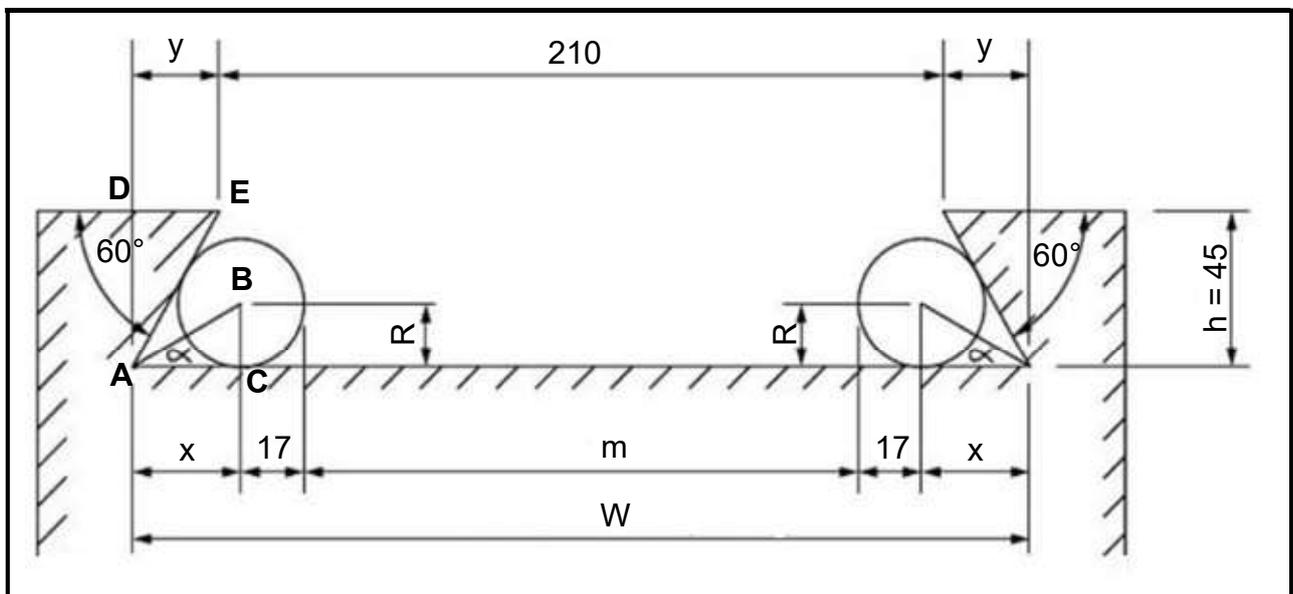

FIGURE 6.2
6.2 FIGURE 6.2 below shows an external dovetail.